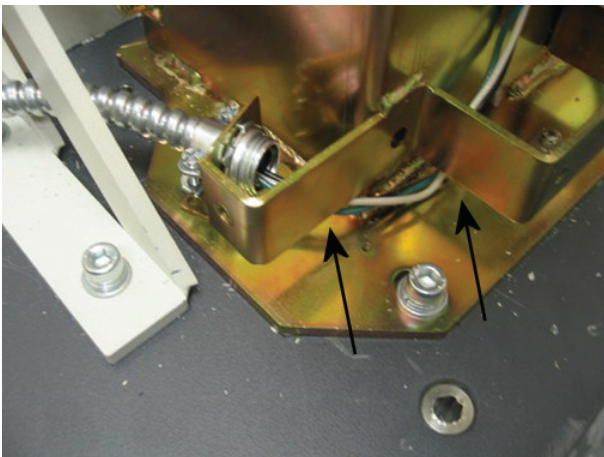

Figure 3: Routing under brackets
4. Route Line, Neutral, and Earth Ground Conductors under side cover bracket and under front column cover bracket (see Figure 3).